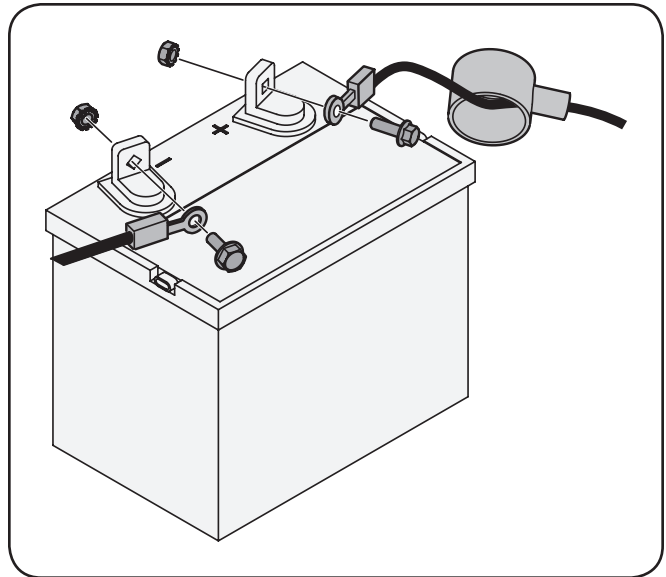

Figure 3-8
1. Remove the plastic cover, if present, from the positive battery terminal and attach the red cable to the positive battery terminal (+) with the bolt and hex nut. See Fig. 3-8.
2. Remove the plastic cover, if present, from the negative battery terminal and attach the black cable to the negative battery terminal (-) with the bolt and hex nut. See Fig. 3-8.